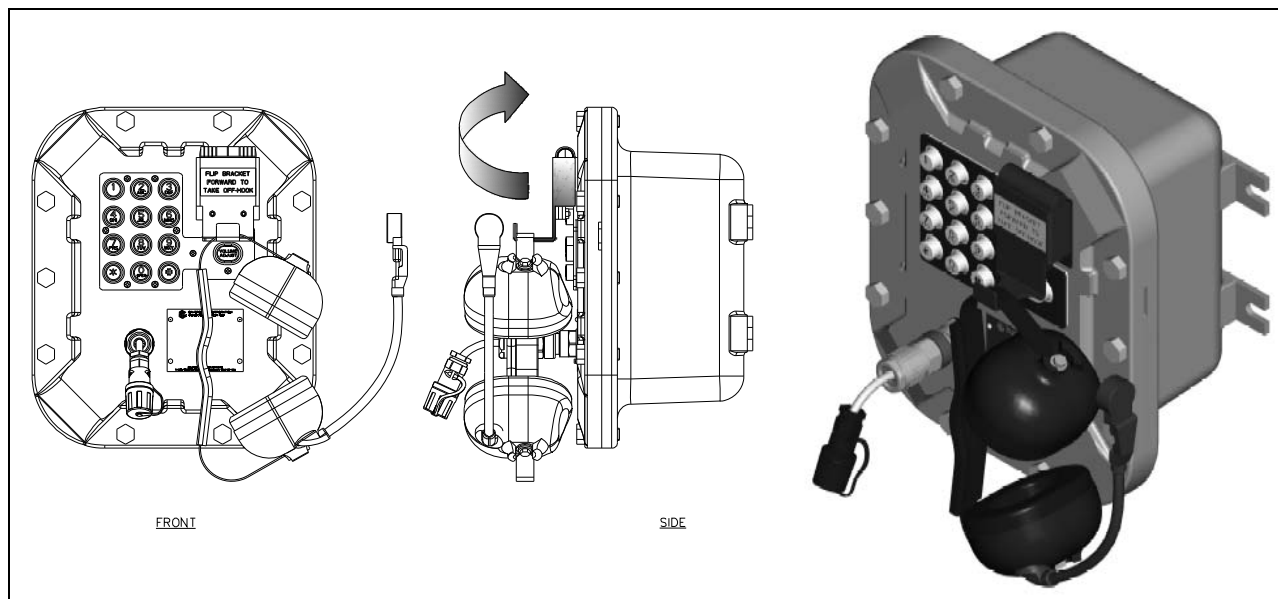

Figure 11.
2. To place a call, remove the headset from the headset activation bracket and flip the headset bracket forward to its preset position. See Figure 11.